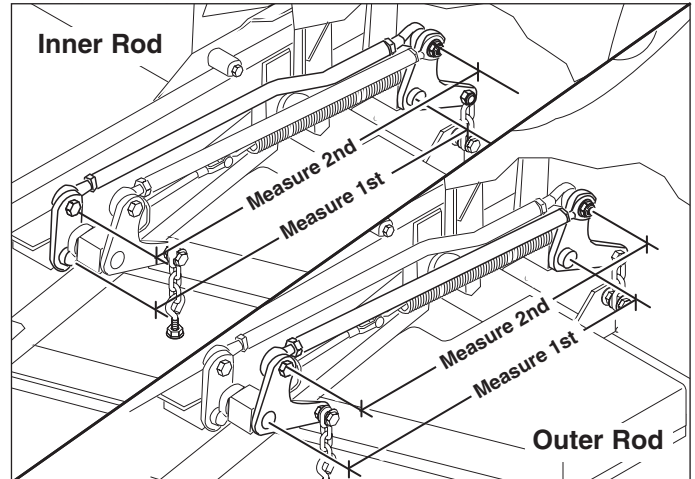

Figure 19. Measure the Inner & Outer Lift Rods
2. To check the inner lift rod timing, measure and record the distance between the inner lift pivots and the inner rod pivots. Repeat for other side of unit. See Figure 19.
3. To check the outer lift rod timing, measure and record the distance between the outer lift pivots and the outer rod pivots. Repeat for other side of unit. See Figure 19.